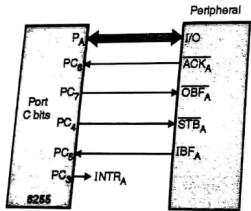

Fig. 9.11.11 : Mode 2 interfacing
- In this mode group A is used as input and output i.e. for transmitting and receiving data from peripheral through 8255 as shown in Fig. 9.11.11.